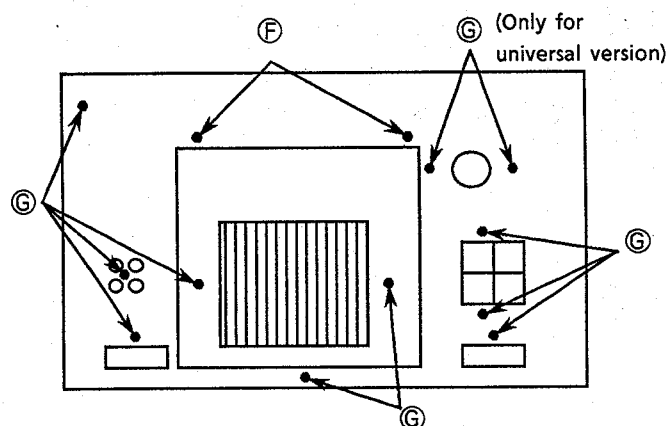

Figure 5 Rear view
1. Remove the screw ⑤ (Figure 5).
2. Remove the screws ③ (Figure 5).